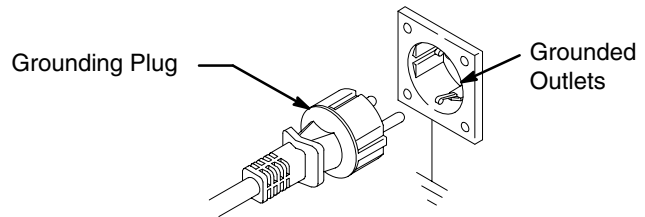

Fig. 2 **Model 232144, 145, 154**
1. Models 232144, 145, 154 require a 230 VAC, 50 Hz, 10A circuit with a grounding receptacle. Models 232148, 158 require a 110 VAC, 50/60 Hz, 15A circuit with a grounding receptacle. Models 232156, 157 require a 100 VAC, 50/60 Hz, 15A circuit with a grounding receptacle. See Fig. 2.